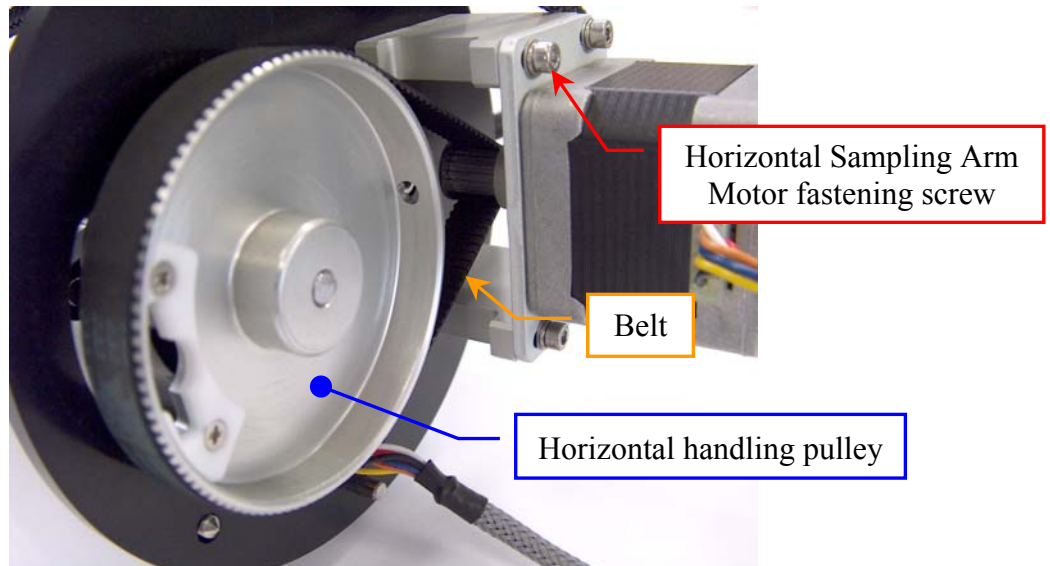

Fig. 27 – Horizontal Sampling Arm Belt
21. Push the motor outward from the arm axis and holding it in this position, so as to maintain the belt in tension, then tighten the four Horizontal Sampling Arm Motor fastening screws (Fig. 27).
11. Loosen the four Horizontal Sampling Arm Motor fastening screws (Fig. 27).
13. Wrap the new belt over the Horizontal Sampling Arm Motor pulley and over the horizontal handling pulley (Fig. 27).
14. Push the motor outward from the arm axis and holding it in this position, so as to maintain the belt in tension, then tighten the four Horizontal Sampling Arm Motor fastening screws (Fig. 27).